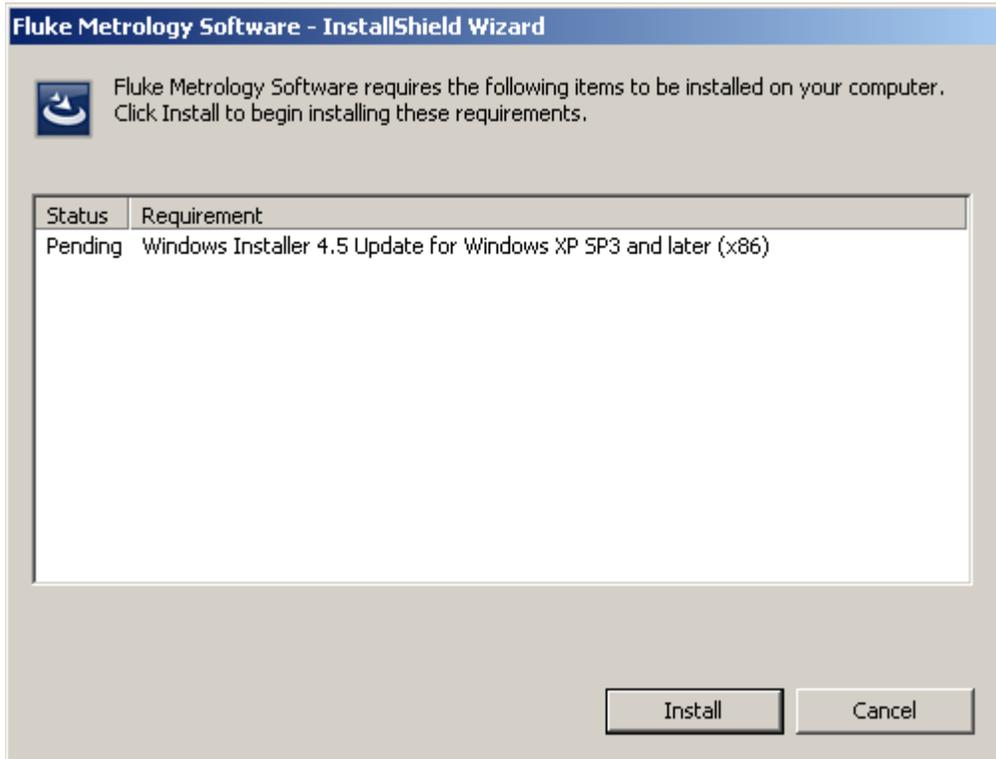

Figure 1. Metrology Software Prerequisites
4. If Windows Installer needs to be updated on the PC, click **Install** (see Figure 1) to install the update. After Windows Installer is updated, a reboot is required. After you reboot the PC, return to step 2 in this section.
4. If Windows Installer needs to be updated on the PC, click **Install**, see Figure 1. After Windows Installer is updated, a reboot is required. After you reboot the PC, return to step 2 above.